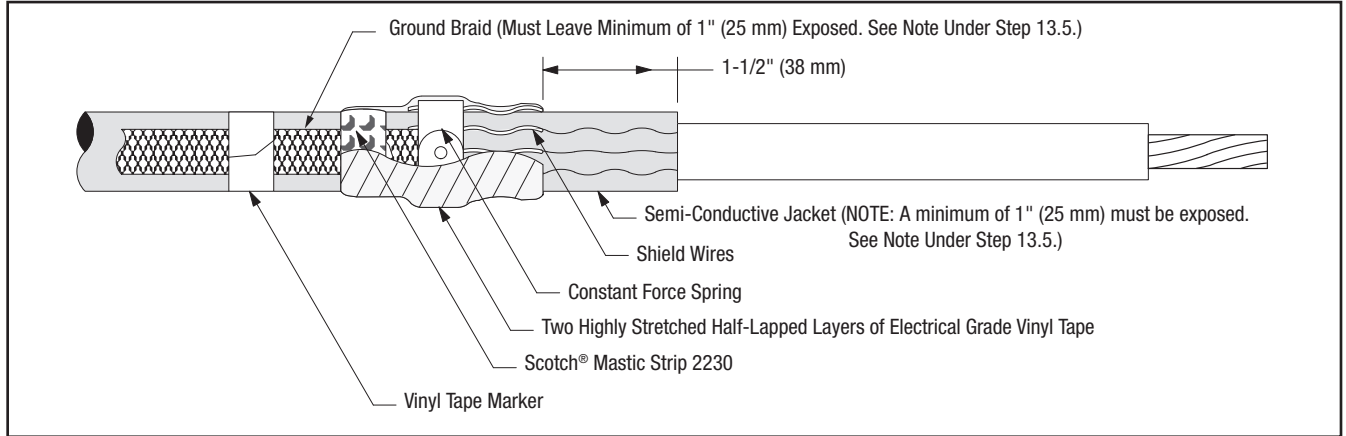

Figure 24
13.5 Wrap two highly stretched half-lapped layers of electrical grade vinyl tape around mastic seal, constant force spring and exposed shield wires (Figure 24).